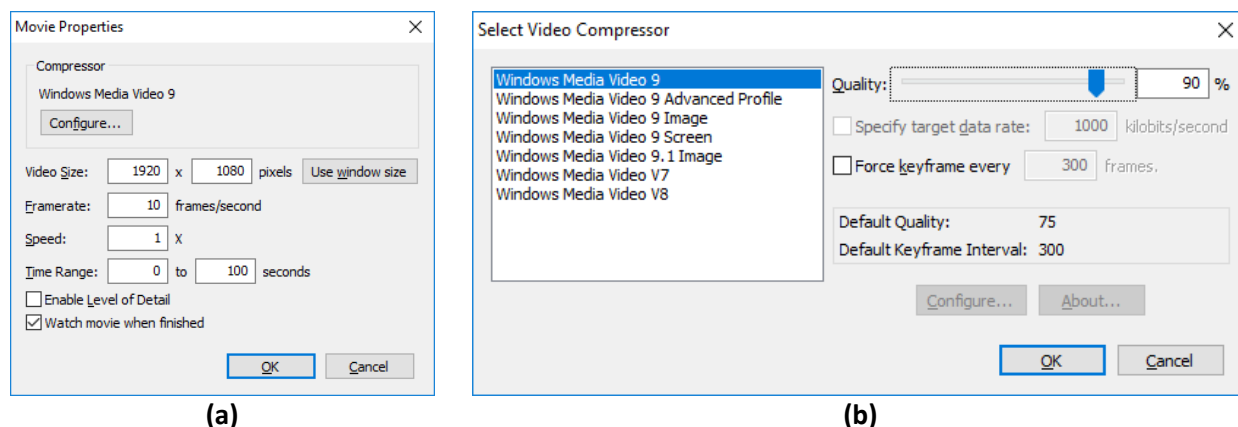

Figure 4-11: Movie option dialogs
5. A dialog will show some movie making options as in Figure 4-11 (a). The options are as follows:
- **Compressor** shows which video codec is currently selected and allows the codec to be chosen and configured. If **Configure...** is pressed, another dialog will show as in Figure 4-11 (b). This dialog will show a list of the codecs currently installed on the computer. Some codecs allow certain properties, such as the **Quality**, **Data Rate**, and **Keyframe interval** to be specified. These properties control the resulting movie's quality, file size, and seeking performance (how well a movie can be skipped around in the video player), respectively. Some codecs do not expose these properties through this dialog, however. To configure these codecs, you must press the additional **Configure...** button if it is enabled.
To create a movie of this type, press the record button (). A file chooser dialog will prompt for the file name of the movie. For real-time movies the only allowable type is WMV. Once the file name is chosen, the codec configuration dialog will be shown as in Figure 4-11 (b). When **OK** is pressed on this dialog, the movie will begin recording. At this point, anything the user sees in the 3D View will be recorded in the movie. Now the user can change the camera angle, start and stop playback, select occupants, change view settings, etc. and the movie will capture everything. At any time, the movie can be paused